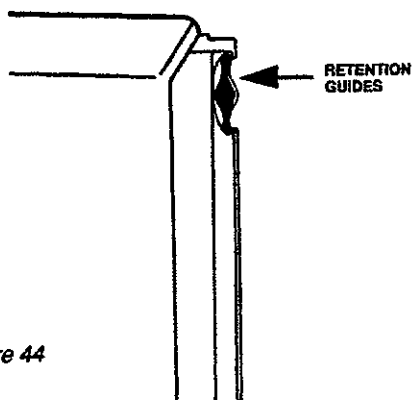

Figure 44
- i. Retention glides **must** remain in place to reinstall chiller door. See Figure 44.